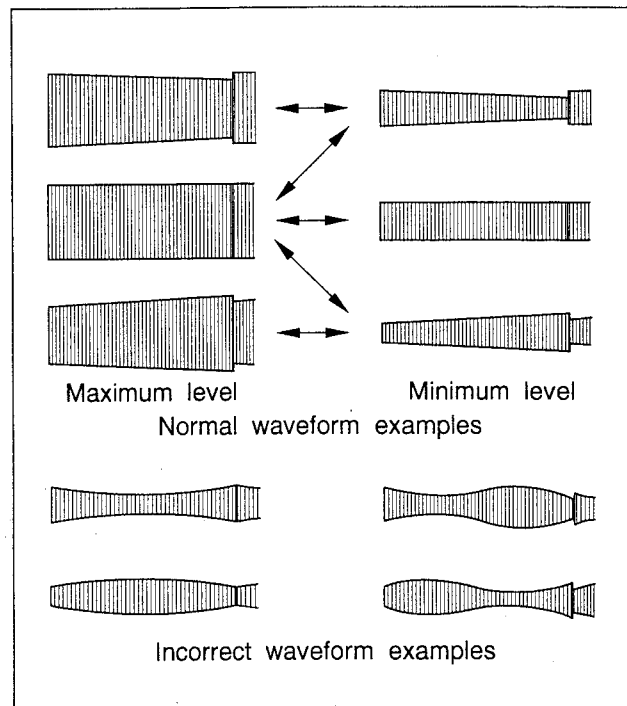

Fig. 2-8-1
- (1) Play back the alignment tape (A1).
- (2) Apply the external trigger signal to D.FF (E), to observe the V.PB FM waveform at the measuring point (D).
- (3) Press the channel buttons (+, -) simultaneously to enter the manual tracking mode. (This also brings tracking to the centre.)
- (4) Make sure that there is no significant level drop of the V.PB FM waveform caused by the tracking operation, with its generally parallel and linear variation ensured. Perform the following adjustments when required. (See Fig. 2-8-1.)